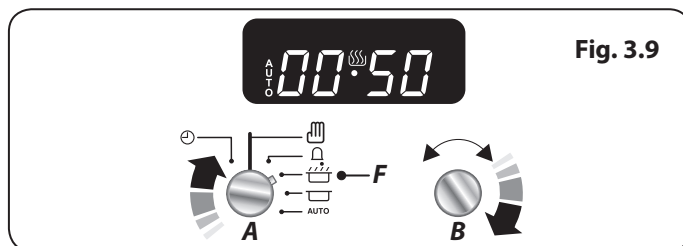

Fig. 3.9
1. Turn the **Timer (A)** knob to the **Cook Time (F)** setting. Turn the **Adjusting (B)** knob clockwise to set the length of the cooking time required (**Fig. 3.9**).